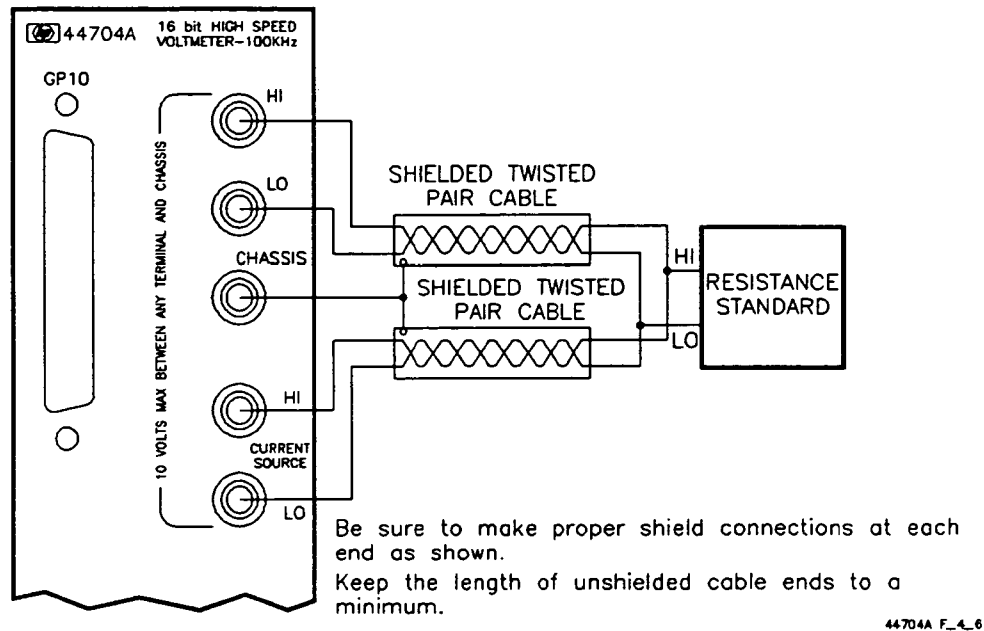

Figure 4-6. Ohms Test Setup
1. Connect the Resistance Standard to the voltmeter terminals as shown in Figure 4-6.